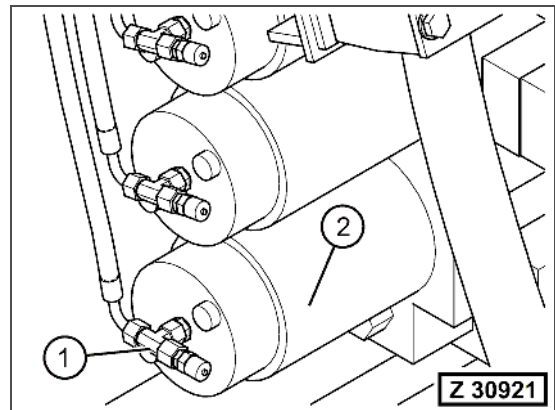

Fig. 3-313
6. Disconnect all pilot hoses (Fig. 3-313, Pos. 1) from the spool valves (Fig. 3-313, Pos. 2) at the main control valve block.